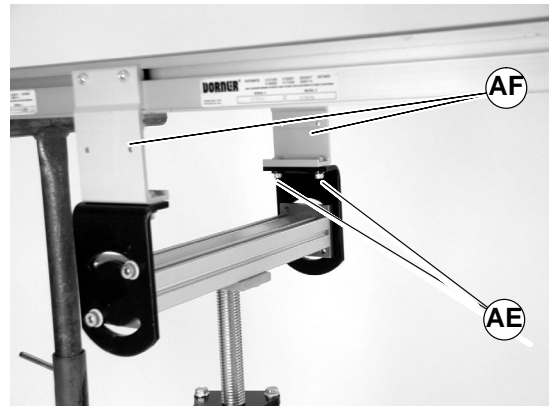

Figure 18
3. Remove conveyor bracket hardware (AE of Figure 18) from both conveyor supports (AF).